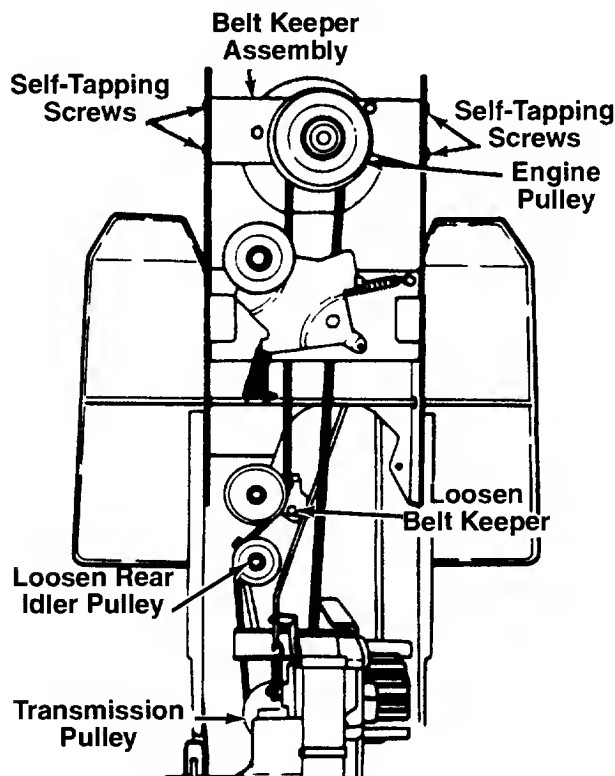

FIGURE 24.
DRIVE BELT (See figure 24)
4. Remove the four self-tapping screws which hold the belt keeper assembly to the frame at the engine pulley. Push the belt keeper assembly forward, out of the way. See figure 24.